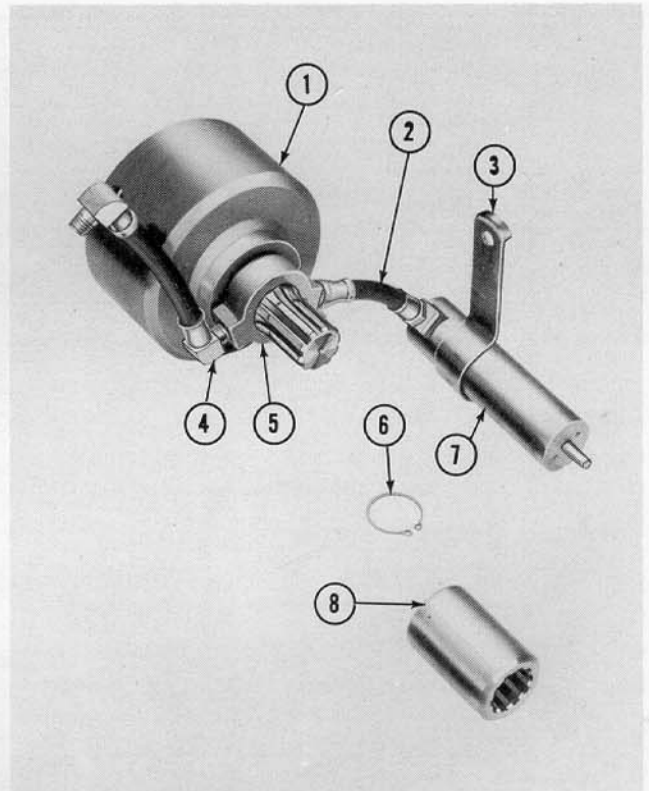
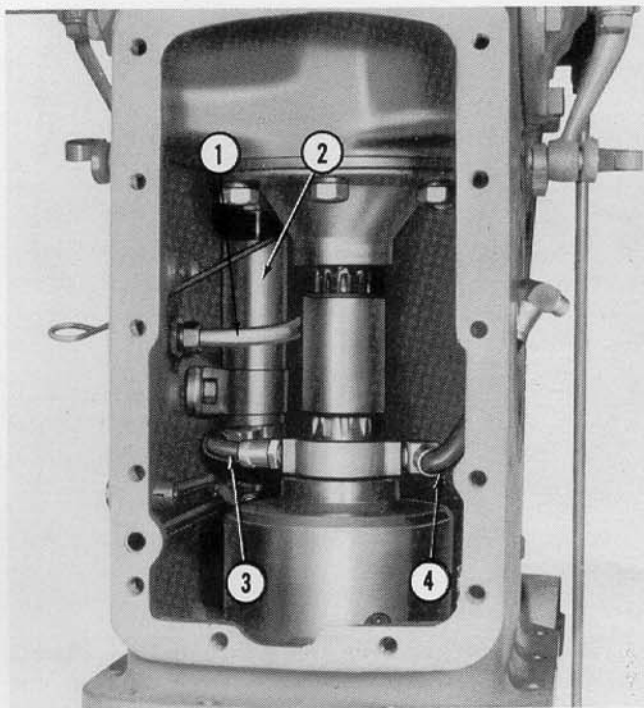

Figure 2
Figure 4
- a. Remove the splined drive coupling (8), Figure 2, and snap ring (6) from the clutch assembly (1).
- b. Slide the collar (5), Figure 2, off the splined shaft and attach the hoses (2) and (4), to the tapped flanges on the collar. Make sure that the flanges of the collar are pointing downward as shown. Connect the hose (2), Figure 2, to the accumulator (7) as shown.
- c. Position the collar on the splined shaft as shown in Figure 2, and replace the snap ring (6) and drive coupling (8).
- d. Slide the accumulator bracket (3), Figure 2, on the accumulator (7) so that it is in an upright position.
4. Install this sub-assembly in the tractor center housing with the splines of the drive coupling (8), Figure 2, engaged with those on the pinion shaft. (See Figure 4). The accumulator and bracket should be against the right side of the center housing as viewed from the rear. Secure the accumulator bracket to the lower front side cover hole with the $\frac{7}{16} \times 2\frac{1}{8}$ inch bolt, lockwasher and nut provided. Insert this bolt from the left hand side of the tractor so that the threaded portion, lockwasher and nut are outside of the tractor housing.
7. Place a new gasket on the side cover and attach the side cover assembly to the tractor with the suction pipe (1) positioned as shown in Figure 4.
NOTE: The hydraulic lift cover has been removed for illustration purposes in Figure 4. It is not necessary to remove the cover to install the Live P.T.O. Attachment. Care should be taken to see that the suction pipe (1), Figure 4, accumulator (2), and hoses (3) and (4) are positioned as shown.